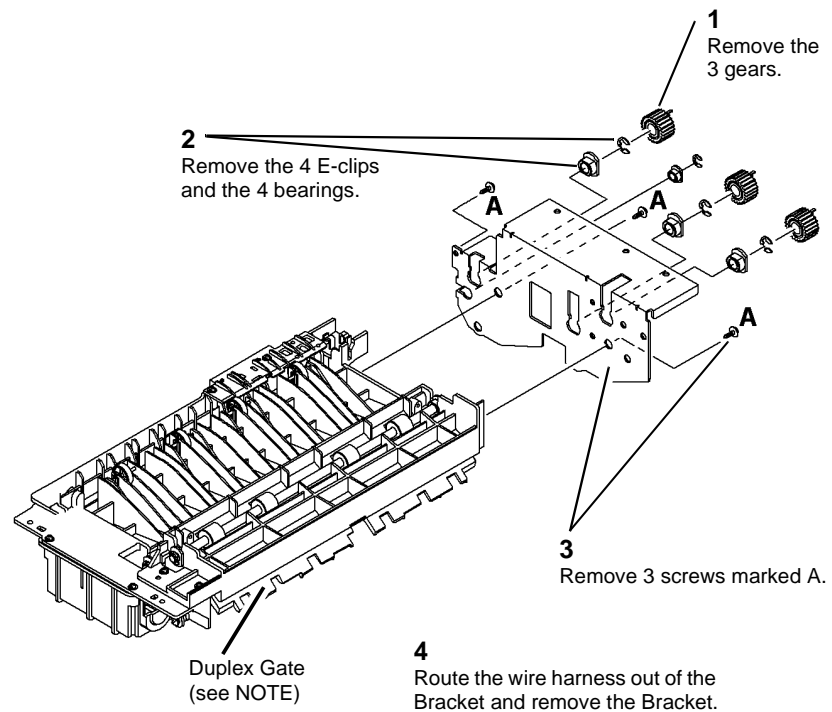

Figure 1 Removing the Support Bracket
2. Remove the Support Bracket (Figure 1).